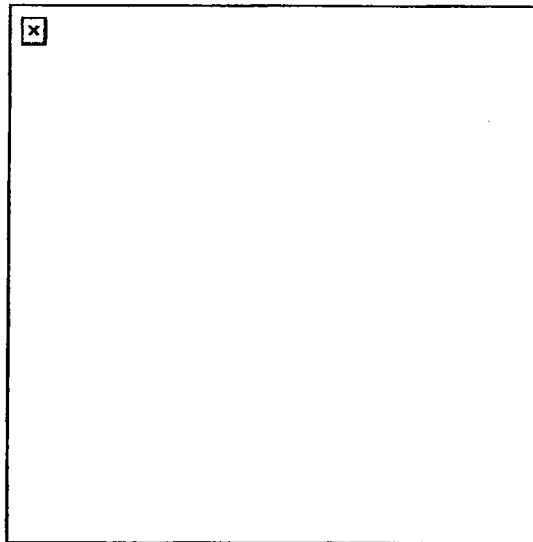

Figure 23. Engaging the primary drive lever.
- (1) Slide the vertical cam assembly through the rear of the receiver. The raised portion should slide over the top of the receiver. The drive lever lock should be underneath.
- (2) Engage the forked end in the notch.
- i. Engage the primary lever (Figure 23).